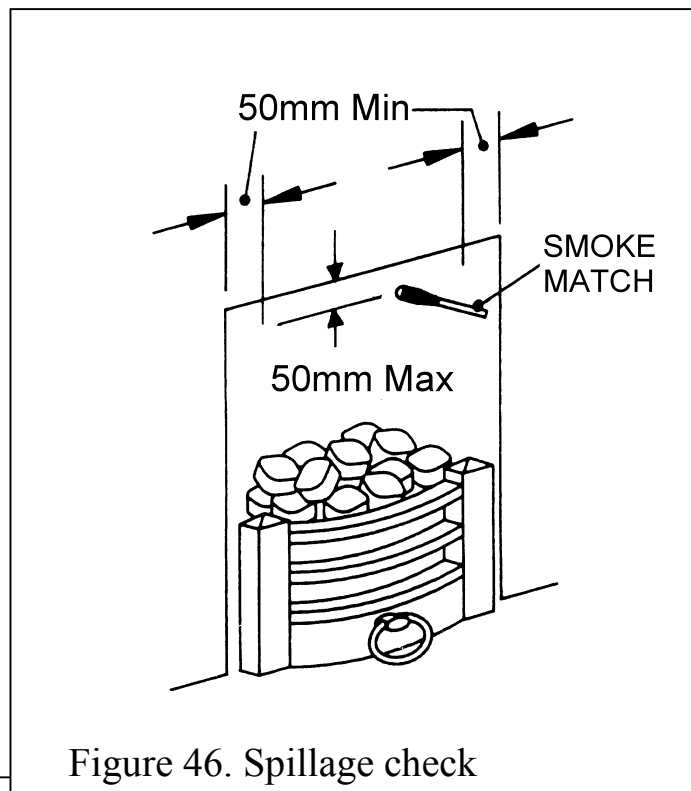

Figure 46. Spillage check
- *A spillage check must be made before leaving the installed appliance with the customer. Make this with all the ceramic fuel effect pieces and firefronts / castings in position. (See figure 46)*